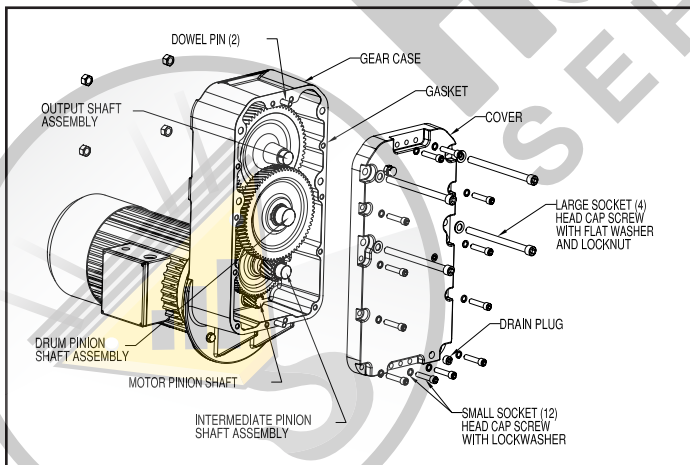

**Figure 5-6. Drum Frame & Geared Limit Switch ("B" & "C" Frame Shown)**
- Remove the geared limit switch or disconnect the wires so that the electrical cable will not inhibit removal of the drum. (see Figure 5-6).
- Remove the hoist from the beam, place it on the ground and provide adequate means to support the drum before removing the frame rod cap screw(s) and stiffener plate hardware ("B" & "C" Frame only) at the outboard end drum frame (see Figure 5-6).